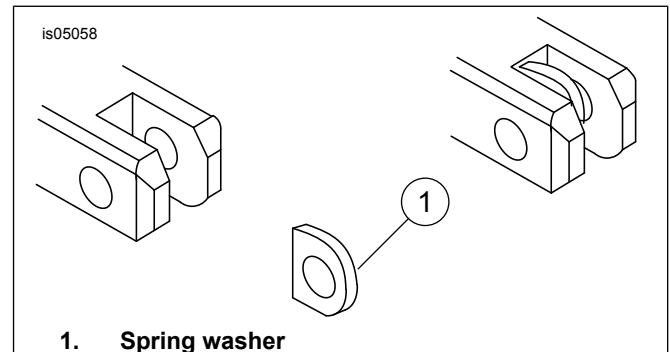

Figure 2. Footpeg Spring Washer Installation
See Figure 2. When installing the footpeg support mount on the motorcycle footpeg support make sure the spring washer (1) is positioned inside of the footpeg support with the square edge toward the inside of the support.